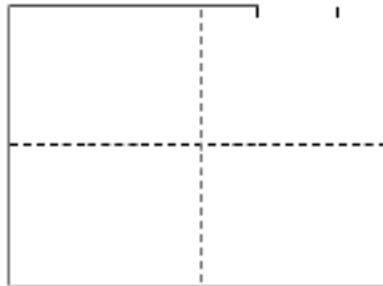

Fig. 1: Line off entire area to be installed.
1. Line off entire area to be installed (Fig. 1).